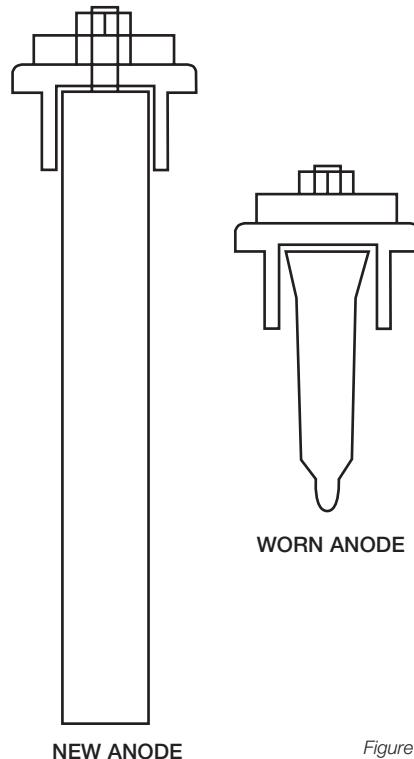

Figure 7.
- 5- The water tank magnesium anode must be checked every two years and replaced when it expires. Consult figure 7 on how to replace the anode rod. Make sure to open the water tank release valve from time to time to clean the sediment accumulation through the filter.